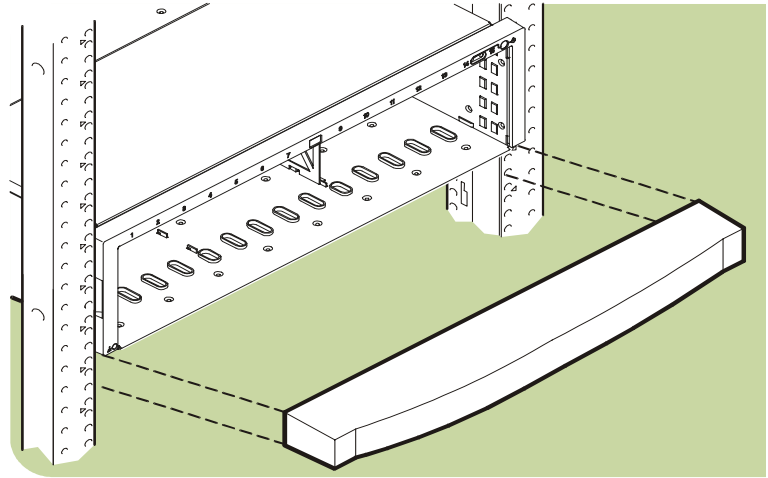

Fig. 28. Installing a filler panel in HP Computer Cabinet
10. Install a filler panel in the space below the array (see Fig. 28).